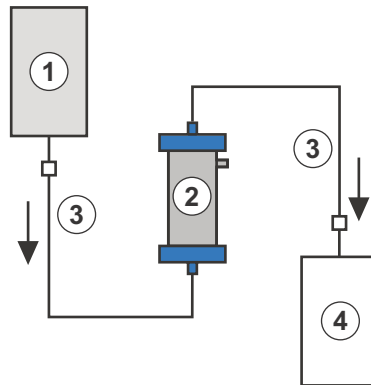

Fig. 9-10 Set-up for heparin adsorber rinsing
Materials: See key to Fig. 9-10
2. Attach the second connection line and the collection bag as shown in Fig. 9-10 with outlet side of the heparin adsorber.